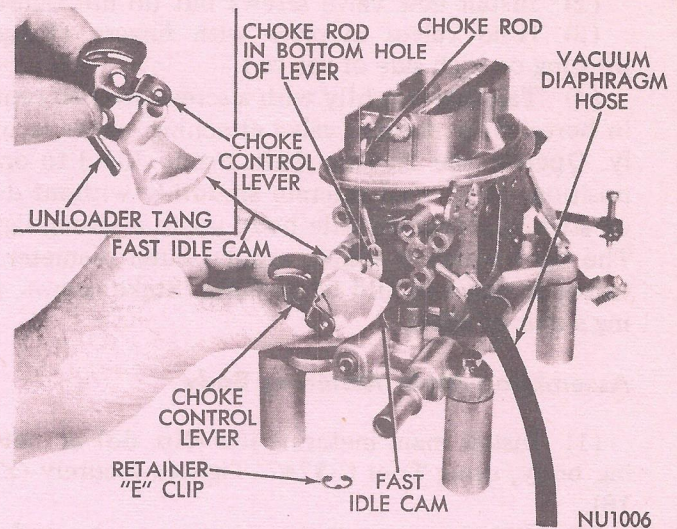

Fig. 7—Removing or Installing Choke Control Lever and Fast Idle Cam
(9) Engage fast idle cam with fast idle cam lever. Be sure cam steps are toward lever side (Fig. 7). Slide cam and lever over pivot pin and at the same time, engage choke rod in bottom hole of cam lever. Secure with "E" clip.